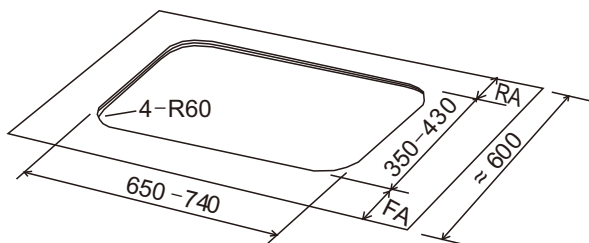

**Fig.10**
- ✓ The hob must be installed at least 70mm away from the rear wall(Fig.10).
- ✓ There must be a distance of st least 800 mm between the hob and any wall cupboard or extractor hood positioned immediately above (Fig.10).